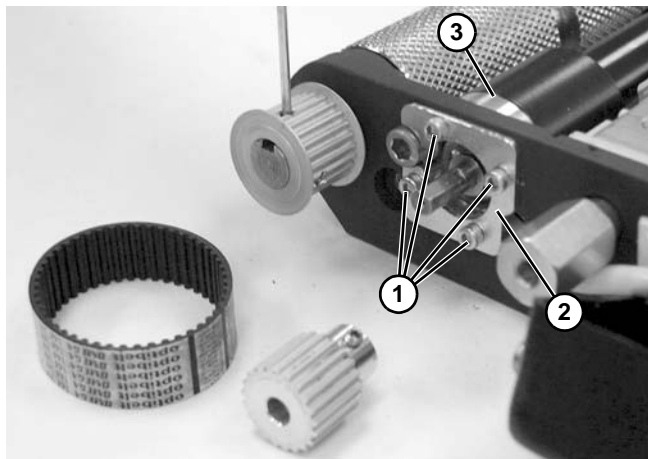

Figure 121
- Remove four clamp plate screws (**Figure 121, item 1**) and clamp plate (**Figure 121, item 2**).
- Remove and replace motor (**Figure 121, item 3**).